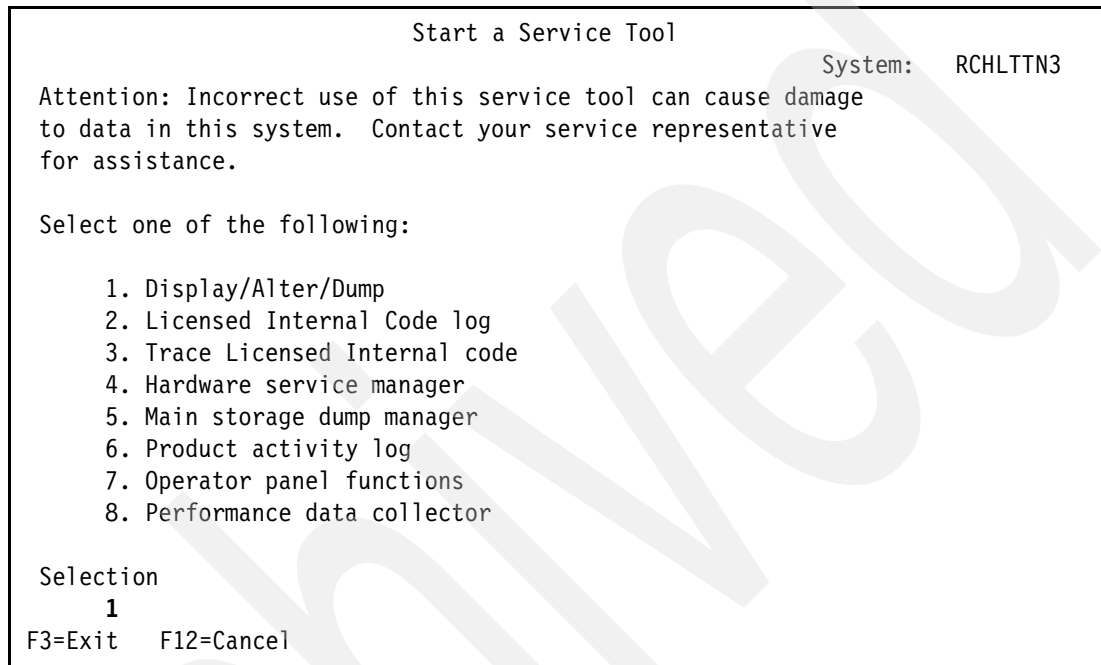

Figure 5-102 Starting a Service Tool panel
2. In the Start a Service Tool panel, select **1. Display/Alter/Dump**, as shown in Figure 5-102.